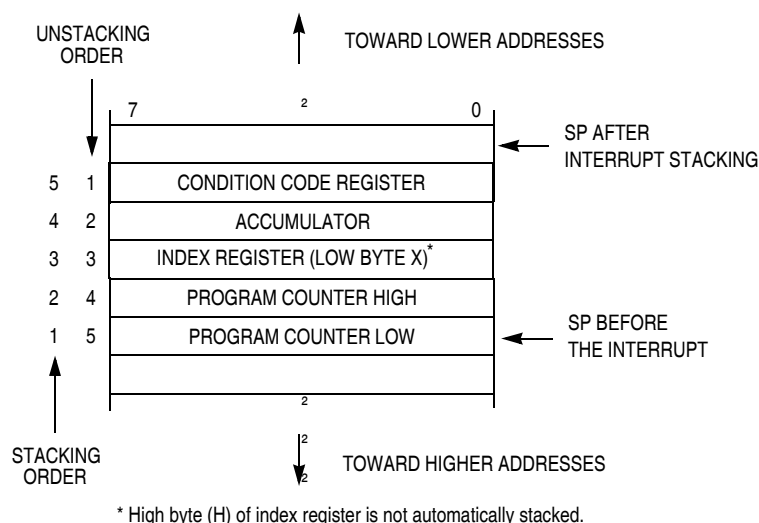

**Figure 5-1. Interrupt Stack Frame**
Figure 5-1 shows the contents and organization of a stack frame. Before the interrupt, the stack pointer (SP) points at the next available byte location on the stack. The current values of CPU registers are stored on the stack starting with the low-order byte of the program counter (PCL) and ending with the CCR. After stacking, the SP points at the next available location on the stack which is the address that is one less than the address where the CCR was saved. The PC value that is stacked is the address of the instruction in the main program that would have executed next if the interrupt had not occurred.